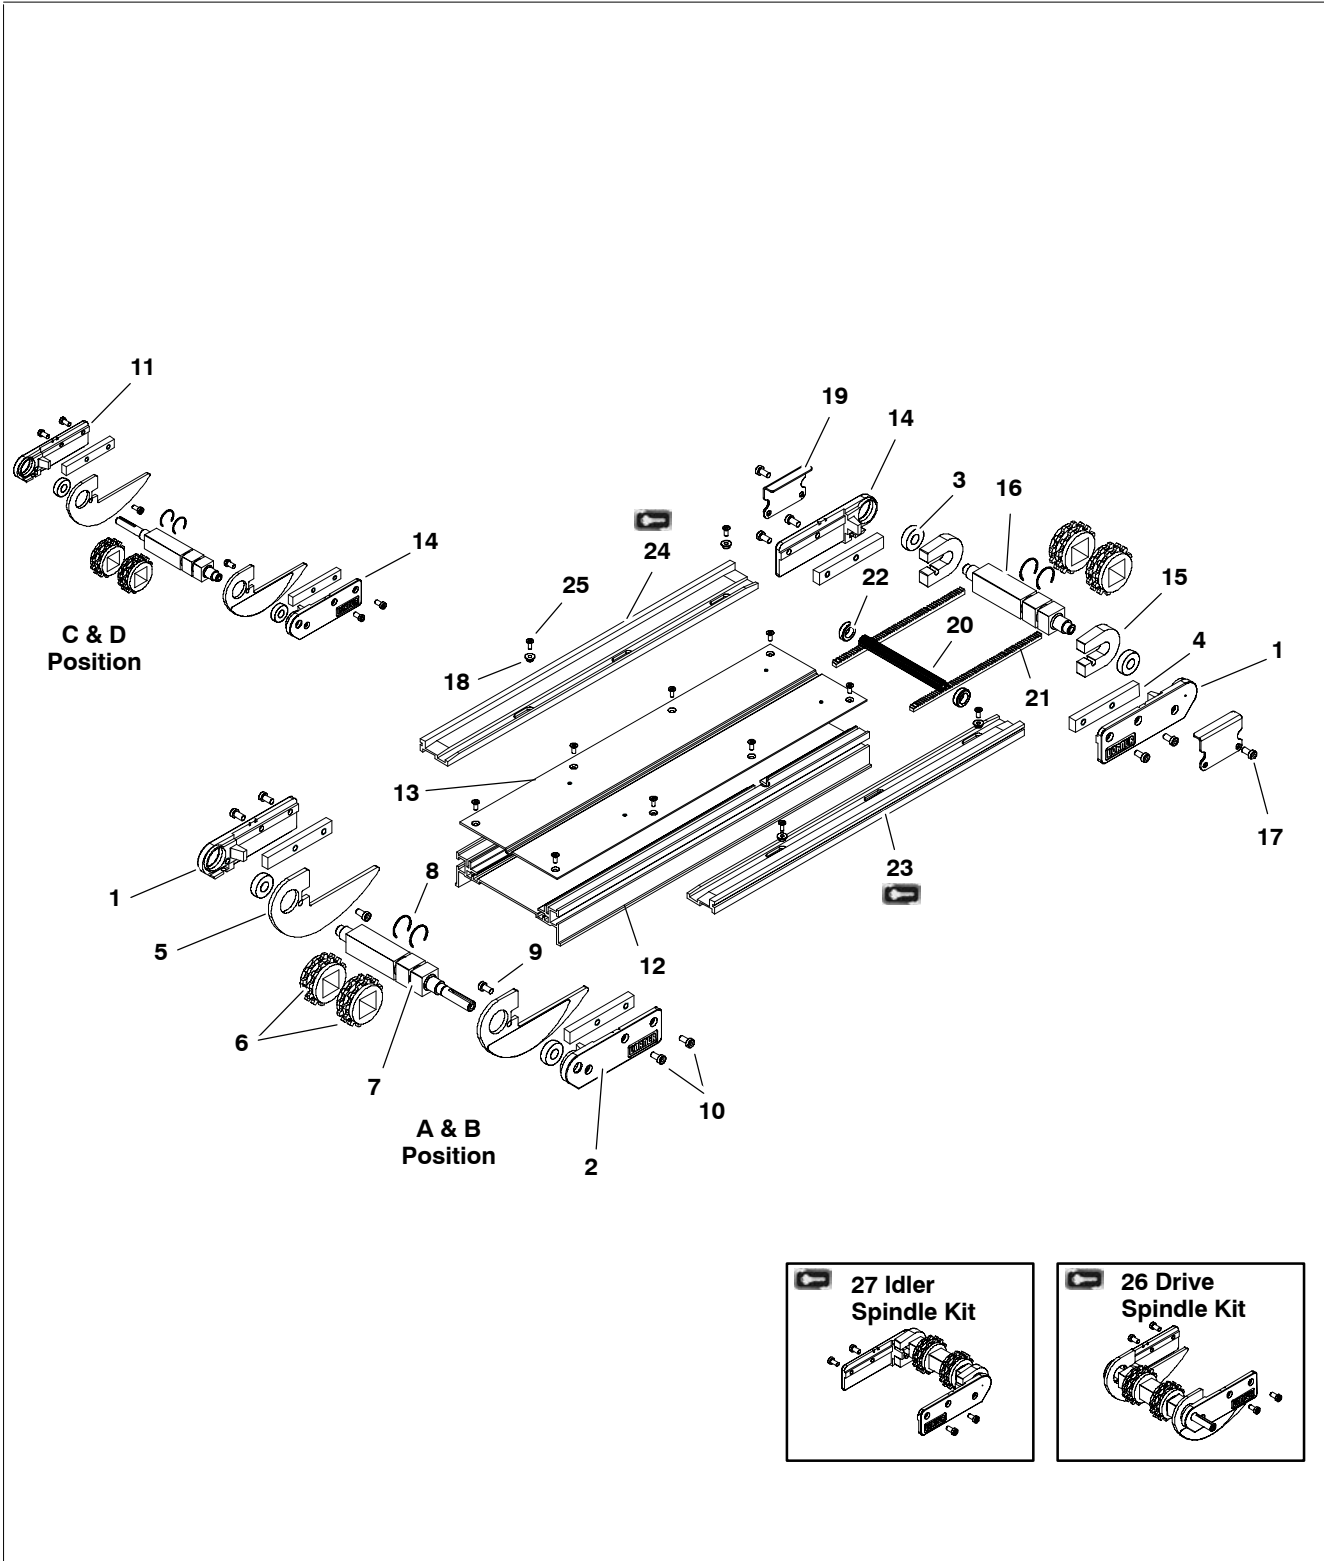

Figure 50
1. Remove old wear strip (BL) by sliding off of support extrusion (BM of Figure 50).